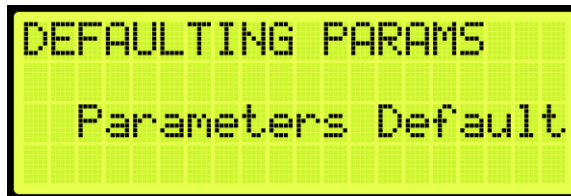

Figure 475: DEFAULTING PARAMS Menu – Parameters Defaulted
- When the system has completed defaulting all parameters, the DEFAULTING PARAMS menu displays Parameters Defaulted (See Figure 475).
6. When the system has completed defaulting all parameters, the DEFAULTING PARAMS menu displays Parameters Defaulted (See Figure 475).